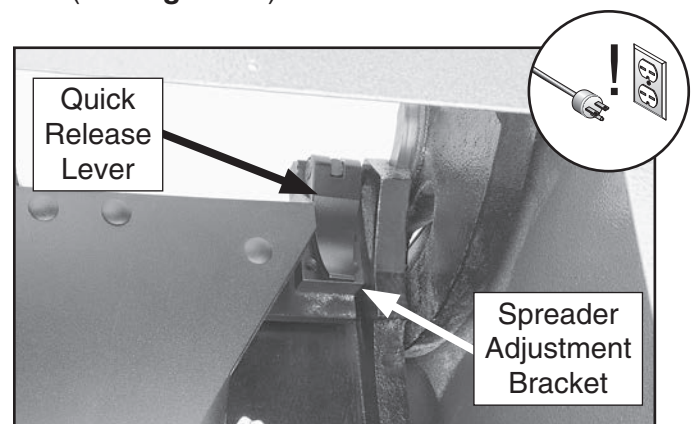

Figure 44. Quick release lever location (viewed from inside cabinet).
2. Raise blade up all the way, then open right access door and locate quick release lever (see **Figure 44**).